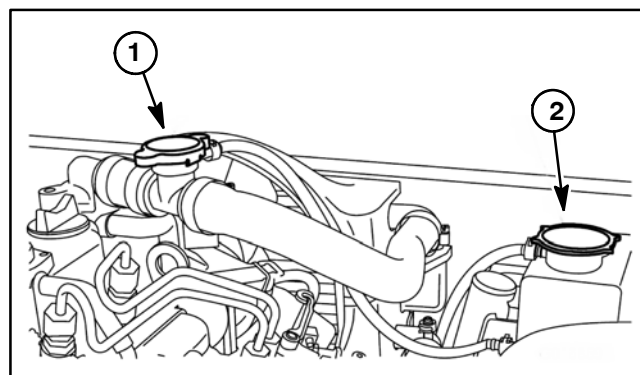

Figure 11
7. Fill cooling system with coolant as follows (Fig. 11):